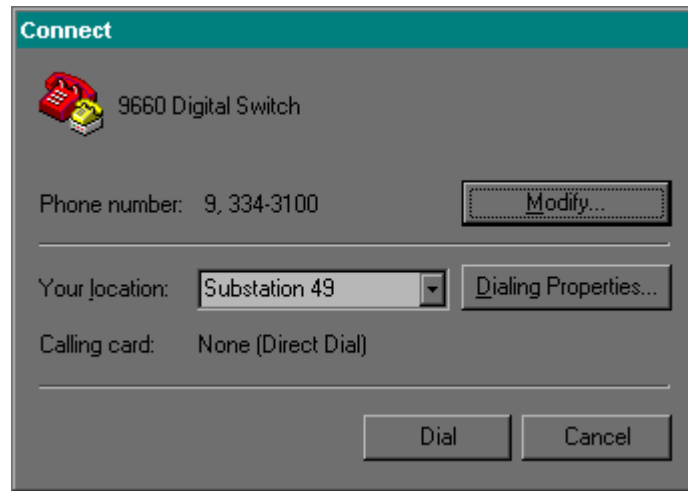

Figure 4-20. Connect window
15. Click on OK and then click on OK again. This will bring you to the Connect window as shown in Figure 4-20.